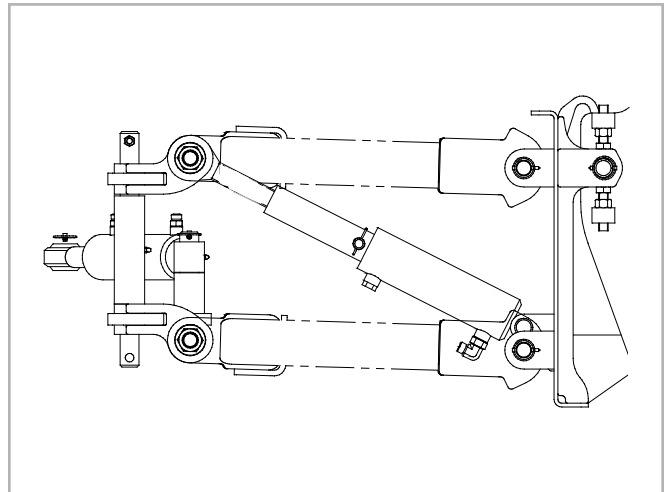

Figure 2
2. To adjust brush pattern rotate the cylinder rod on the lift rod assembly (figure 2). Turning the rod counter clockwise will lessen brush pressure and decrease the width of the brush pattern. Turning the rod clockwise will increase pressure on the brush and widen brush pattern. To relieve pressure from the rod assembly when adjusting lower the brush head completely.